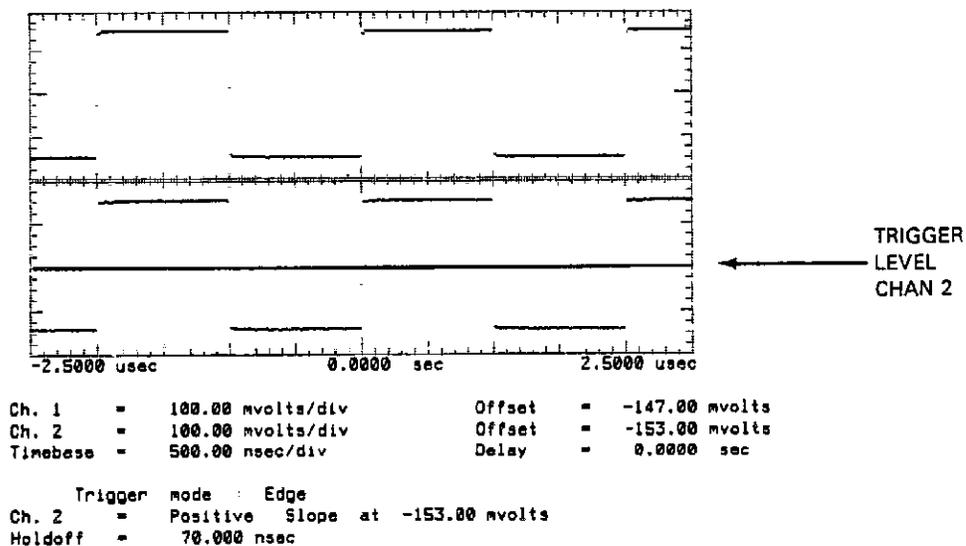

Figure 7-15. Split Screen With Trigger On Chan 2
6. Select Chan 2 as the Trig Src. The unit is now triggering on Chan 2. The line showing the trigger level will be on the Chan 2 display. The trigger level on Chan 2 can be varied by using the input devices (see figure 7-15)